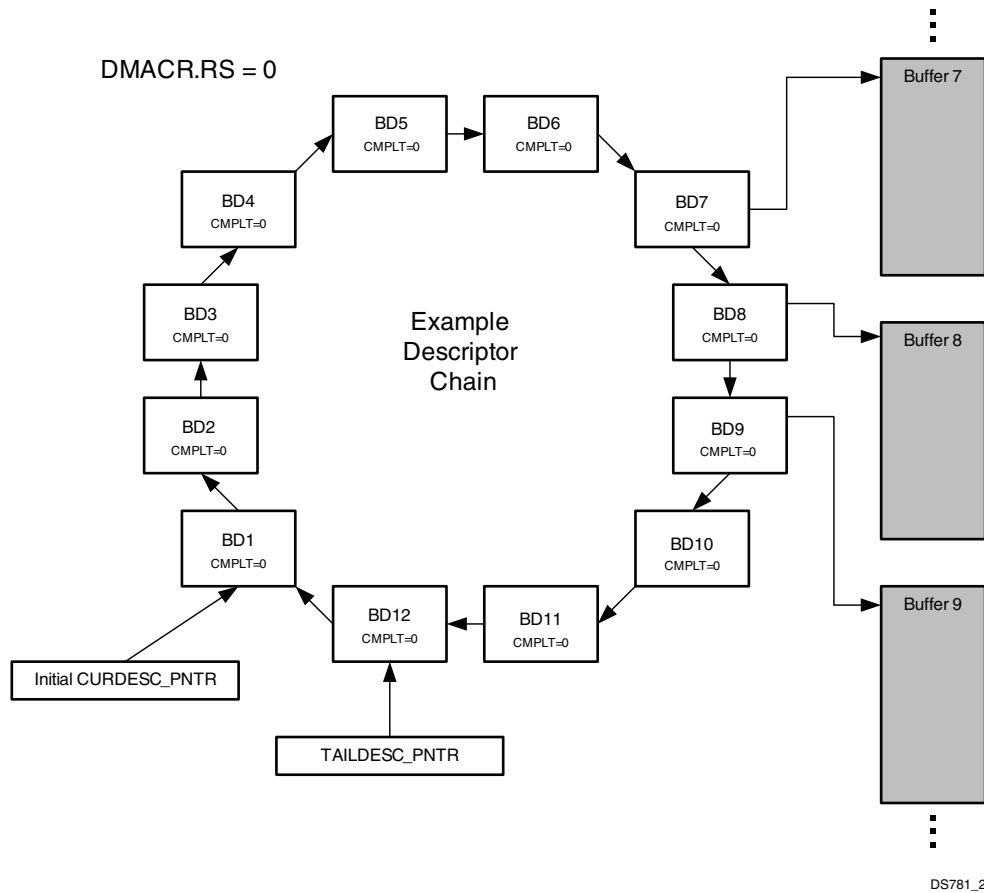

Figure 27: Initialization
1. Initialization (DMACR.RS=0), as shown in Figure 27.